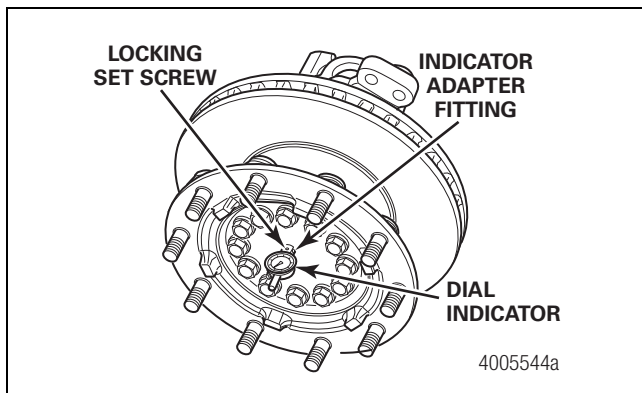

Figure 13.22
- Attach the dial indicator. Loosen the locking set screw and slowly slide the dial indicator through the fitting hole. Position the dial indicator against the hub face and tighten the locking set screw as the needle starts moving. Set the dial indicator to ZERO. Do not rotate the wheel end. Figure 13.22.